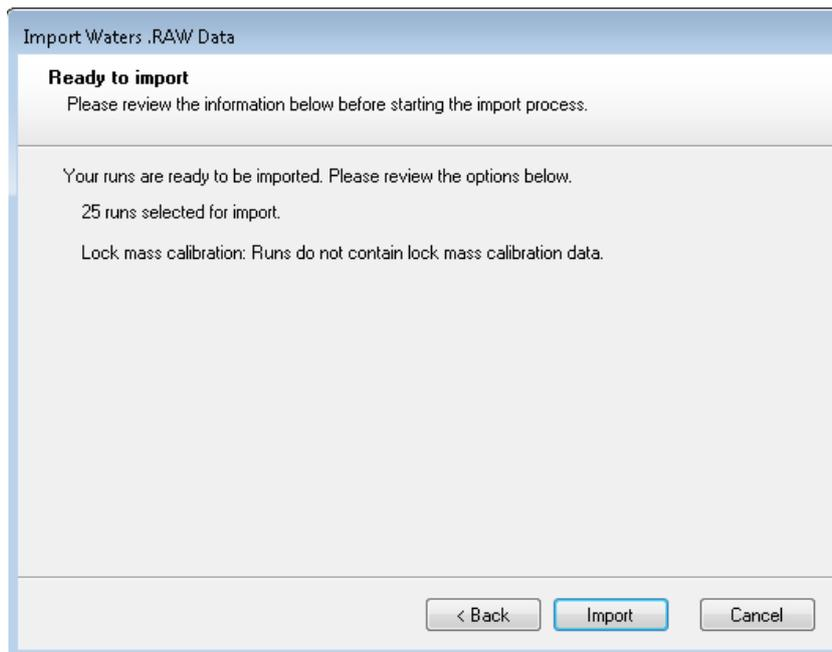

Figure 6: Reviewing the sample information prior to import.
5. Click on **Next**. The software will examine the folders, and inform you of their readiness for import (Figure 6). Note that lock mass calibration is performed by Progenesis Bridge, and so there is no *further* lock mass calibration performed at this stage, which the software recognises.